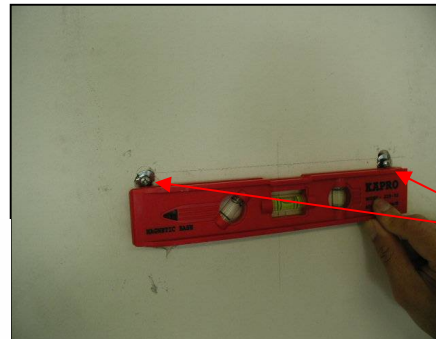

Figure 11
2. Using references on Table 2 and measurement on page 16, decide the leveling point of the hood. Position two mounting screws (not provided) on the wall, leaving 1/8" away from the wall as shown on Figure 11.